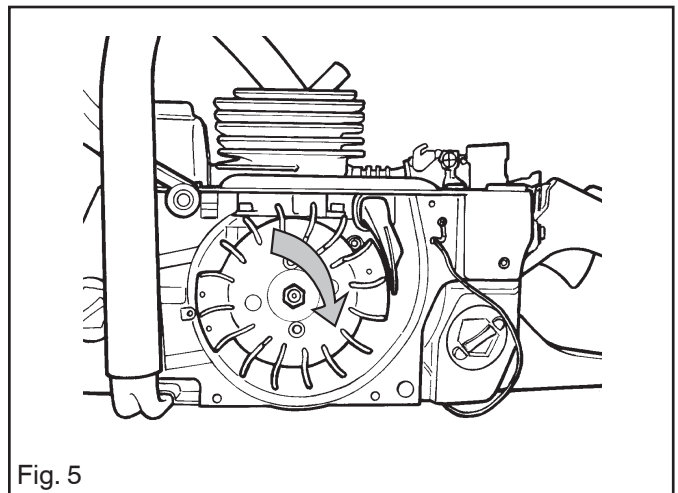

Fig. 5
3. If a new cord is to be fitted, push the free end in the hole in the starter pulley. Take hold of the end with pointed pliers inside the pulley and pull up the cord. See fig. 5.
6. Pull out the cord through its hole in the housing and fit the handle and secure it with a double knot. See fig. 5.
2. Fit the flywheel washer and nut (See fig. 5). Tighten the nut (*Refer to "4 Service data" on page 10*)